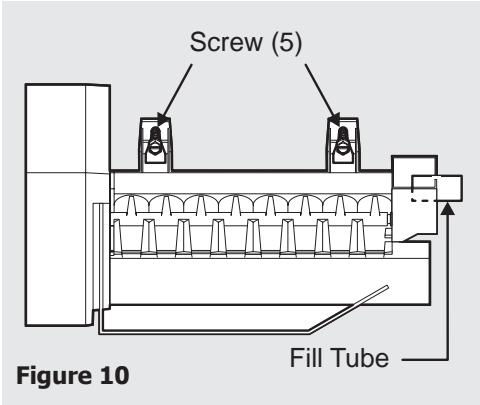

Figure 10
13. Connect wiring harness into connector mounted on the back freezer panel, just to the left of where the water inlet tube comes through. The harness connector is keyed so it will only fit one way. Next, slide Ice Maker connector cover over connector, noting the orientation in Figure 9. (Snap on top, hook on bottom). The Ice maker connector cover can then be snapped into place into the back panel or slid up tight to back panel depending on which version of back panel you have (see note below). Then, mount Ice Maker to the two screws (5) you started earlier from Step 12. (See figure 10.) Tighten screws. Make sure water inlet tube (11) is sitting inside fill cup.